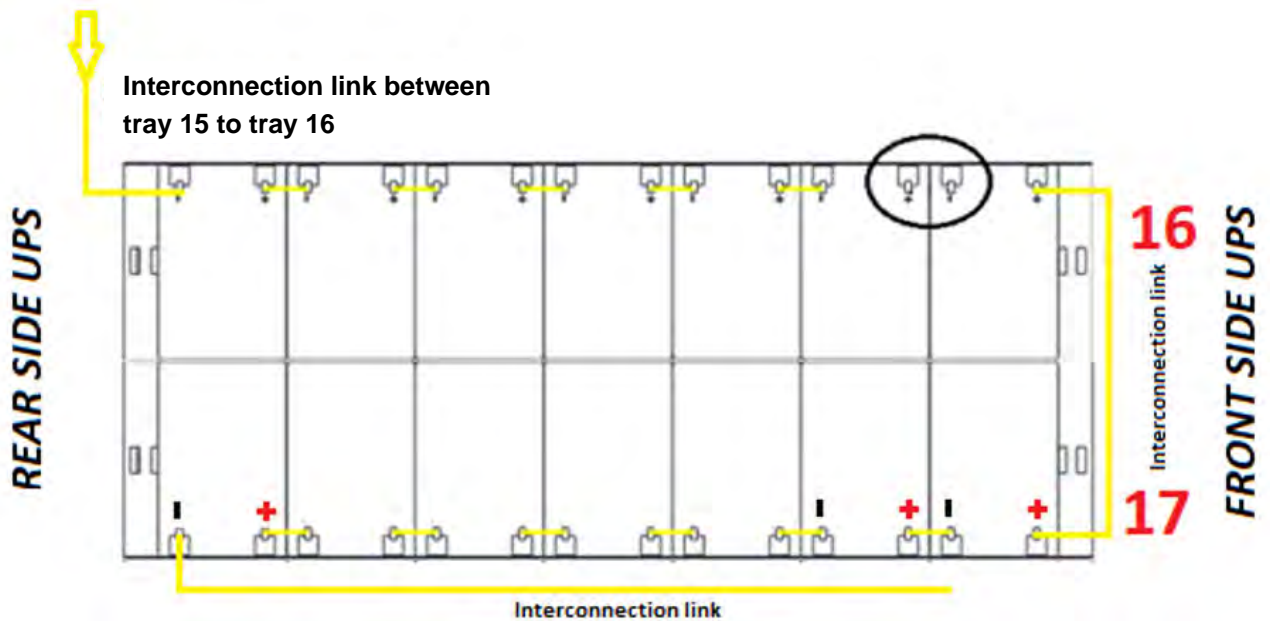

Figure 42 - View from above Level No.6 trays no. 16-17
16) Insert tray no. 16 by removing the circled jumper and inserting the jumpers as demonstrated in Figure 42.